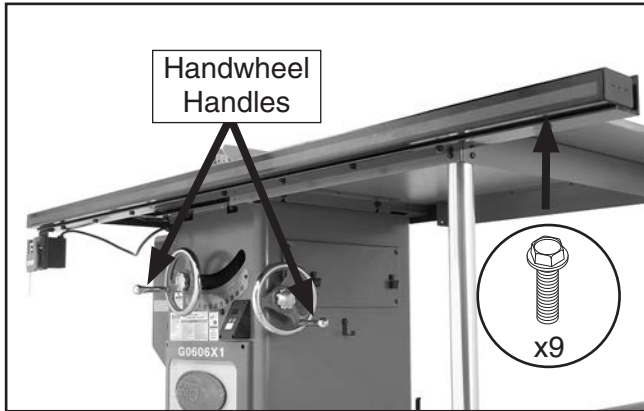

Figure 37. Fence tube mounted to front fence rail.
- Secure the lower shelf brackets to the support legs and cabinet with (4) M6-1 x 12 hex bolts, (4) 6mm flat washers, and (2) M6-1 hex nuts.
- Place the 91³/₈" fence tube over the 91¹/₄" front rail, secure with (9) M8-1.25 x 12 flange bolts, as shown in **Figure 37**, then install the handwheel handles.